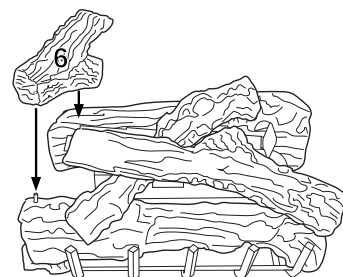

Figure 50 - Installing Log No. 6
6. Place log #6 (left log) onto left pin of front log (#2) and the smooth surface of rear log (#3) as shown in Figure 50. Make sure it is seated properly.